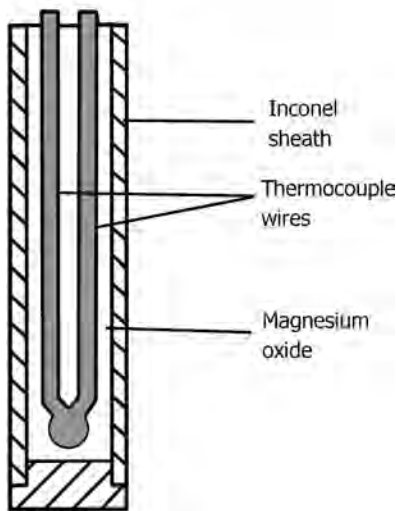

FIGURE 8.2 Internal construction of a typical thermocouple.
- Figure 8.2 shows the internal construction of a typical thermocouple. The leads of the thermocouple are encased in a rigid metal sheath. The measuring junction is normally formed at the bottom of the thermocouple housing. Magnesium oxide surrounds the thermocouple wires to prevent vibration that could damage the fine wires and to enhance heat transfer between the measuring junction and the medium surrounding the thermocouple.